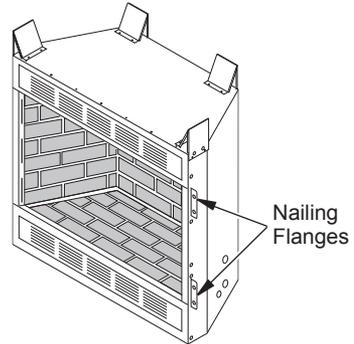

Figure 10 - Location of Nailing Flanges (Two on Each Side), 32" Model Shown (Model May Vary From Illustration)
5. Break off nailing flanges with hammer or pliers (32" models only, see Figure 10).